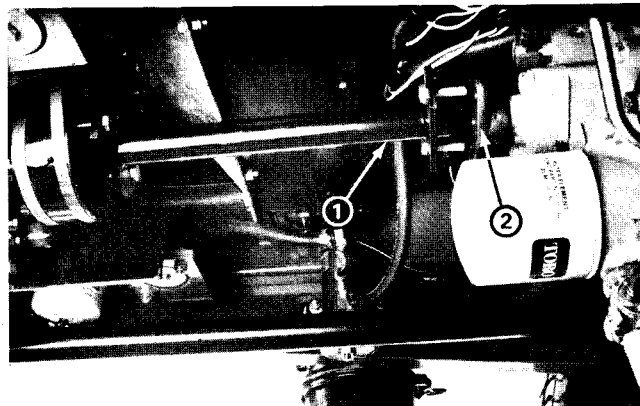
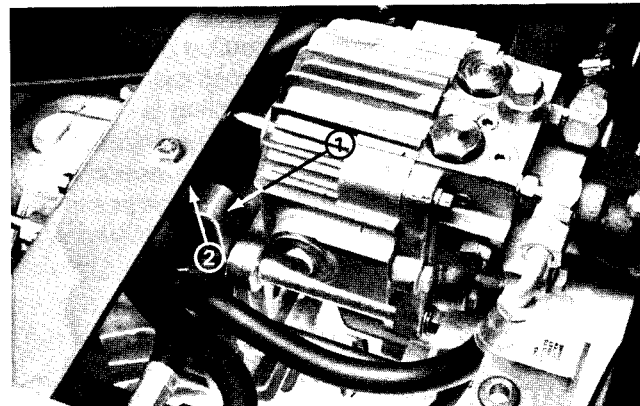

Figure 2
Figure 3
6. Secure the drive shaft to the engine crankshaft pulley with the two (2) 8 mm cap screws (Fig. 2).
8. Use the holes in the drive shaft mounting plate and transmission hub to check the alignment. Put two (2) 5/16 in. cap screws through the holes in the drive shaft mounting plate to get a better indication of the alignment. Check the alignment with the shaft mounting plate and transmission hub in the horizontal and vertical positions.
9. If adjustment is necessary, loosen the transmission anchor nuts (Fig. 3).
**NOTE:** The transmission anchor prevents the weight of the transmission from causing the differential housing to rotate downward (pivoting at the axle tubes). Should this happen, the engine to transmission coupler would become misaligned and cause coupler damage. It is important to leave the transmission anchor loose until the coupler is properly aligned and then tighten the anchor jam nuts against the anchor (Fig. 3). **DO NOT TIGHTEN THE JAM NUTS SO THAT A PUSHING OR PULLING FORCE IS APPLIED AGAINST THE TRANSMISSION.**